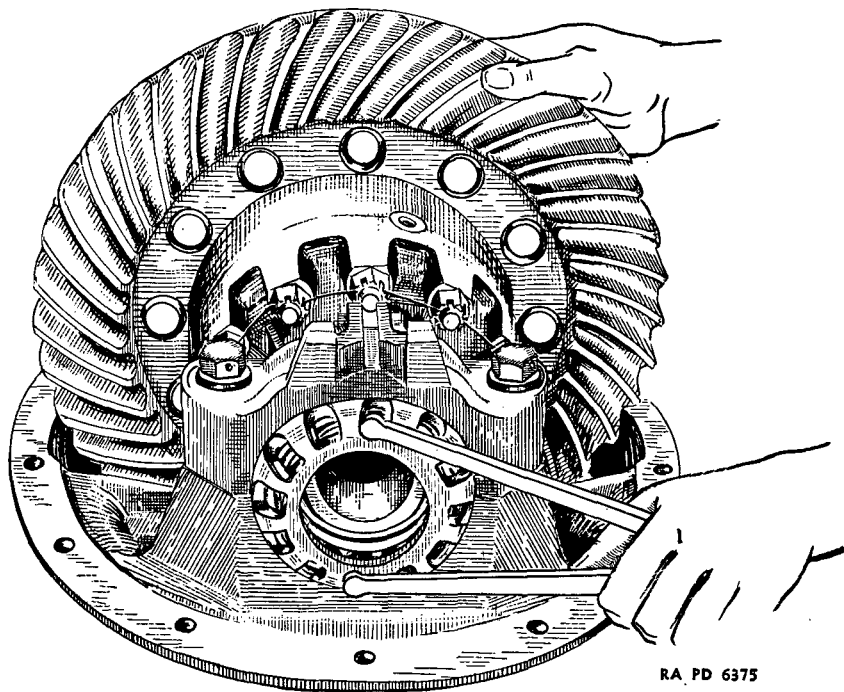

FIGURE 60.—Adjusting rear axle differential ring gear and pinion backlash.
(2) Bearing adjustment (for ring gear and pinion backlash) (fig. 60).